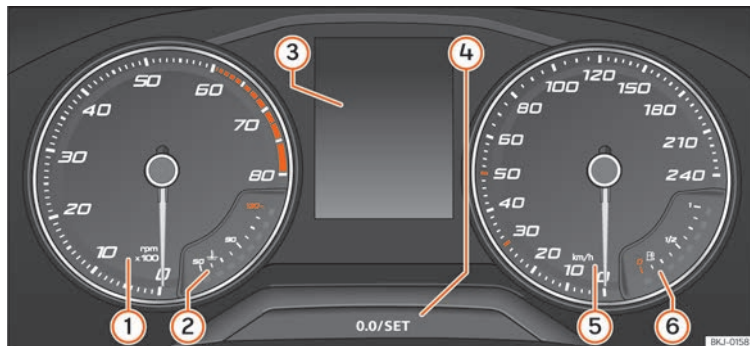

Fig. 68 Instrument panel, on dash panel.
Details of the instruments » **Fig. 68:**
- Briefly press the button **0.0/SET**  **Fig. 68**  to reset the trip recorder to 0.